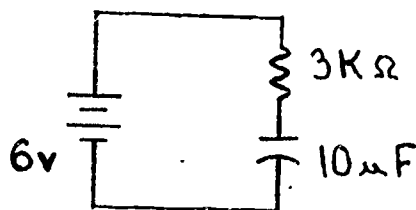

Fig. 7
27. In Figure 7, V_c would reach 6 V in
28. In Figure 7, the current would be _____ in 60m Seconds: